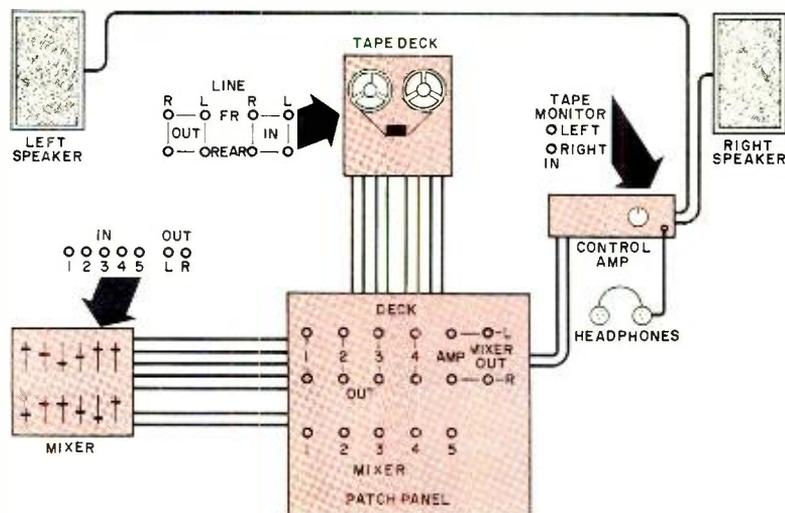
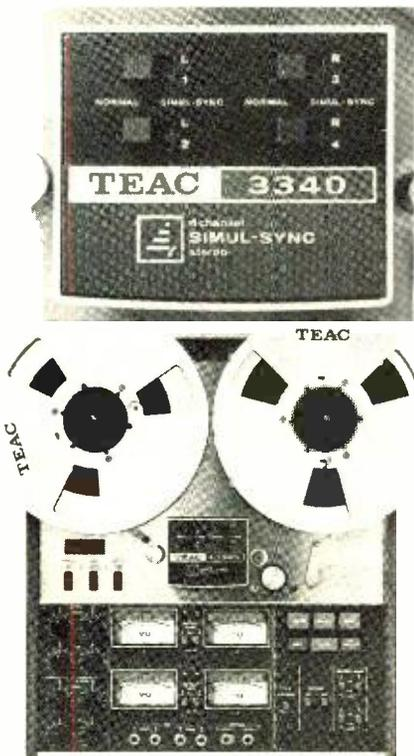

Fig. 6. Layout of a basic home recording studio. The most important part of the system is the tape deck.
Fig. 7. The Teac 3340S multitrack deck. Inset shows Simul-Sync panel.
**Monitor/Playback System.** A basic home recording studio is shown diagrammatically in Fig. 6. At its heart is a tape deck such as the Teac 3340S shown in Fig. 7. The monitor/playback system processes the monitored signals for reproduction through speakers or headphones. This system consists of what is commonly called a "control am-